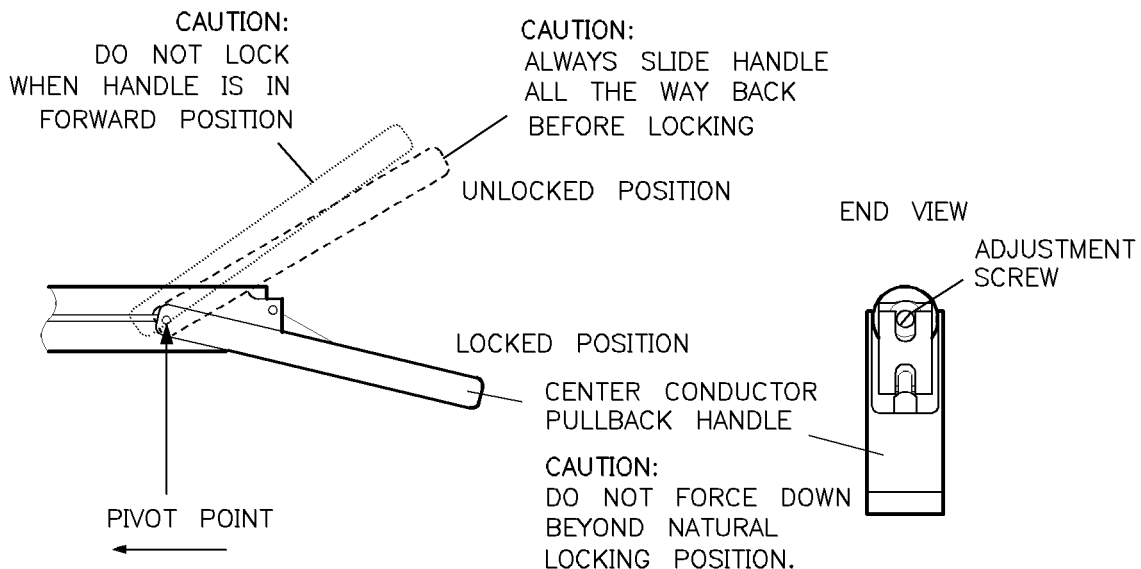

Figure 4-8. Setting the Sliding Load Pin Depth
2. Refer to Figure 4-8. Set the center conductor pullback to the locked position. With a small screwdriver gently turn the center conductor pin depth adjustment screw until the gage pointer reads -3.81 micrometers (-1.5×10^{-4} inches).